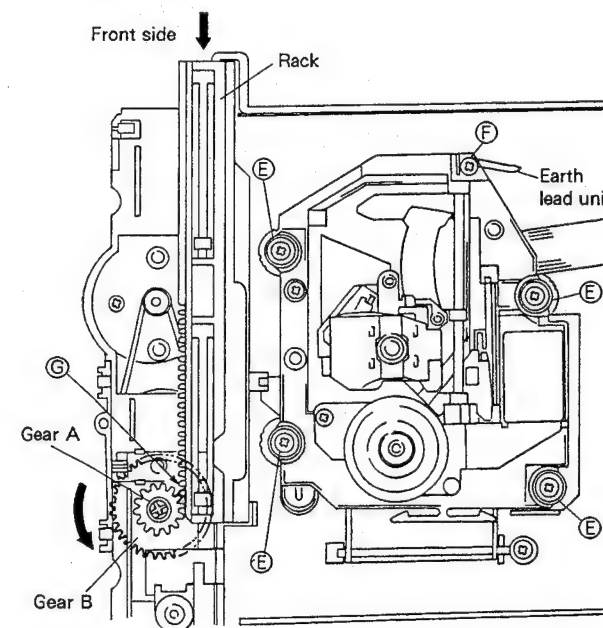

Fig. 2-3
- ① Remove the tray. (Refer to the "REMOVING THE TRAY".)
- ② Remove the four screws (E) and one screw (F) with the servo mechanism assembly lowered (to the tray-open position). (Fig. 2-3)
- ③ To move the rack by hand, gear A and the gear section of the rack must be engaged at section (G) (see Fig. 2-3). Otherwise, the rack may not move. In this case, move gear B with a ⊖ screwdriver from the side and fit gear B and the gear section of the rack at the engaging section (G).